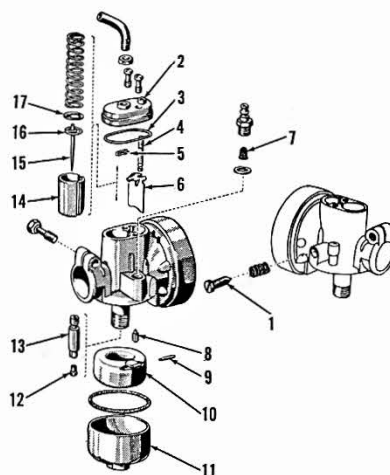

Fig. A1-2—Exploded view of Bing 1/17 carburetor.
All models except Mo-Ped 50 use Bing 1/17 carburetor shown in Fig. A1-2. Main jet (12) is normally No. 90 for Sport Mo-Ped and 84 for Motor Scooters; however, other sizes may be used for better fuel economy or slightly better performance. Clip (16) should be installed in third groove from top of needle (15). Make certain washer (17) is installed. Idle speed screw (1) is on right side.